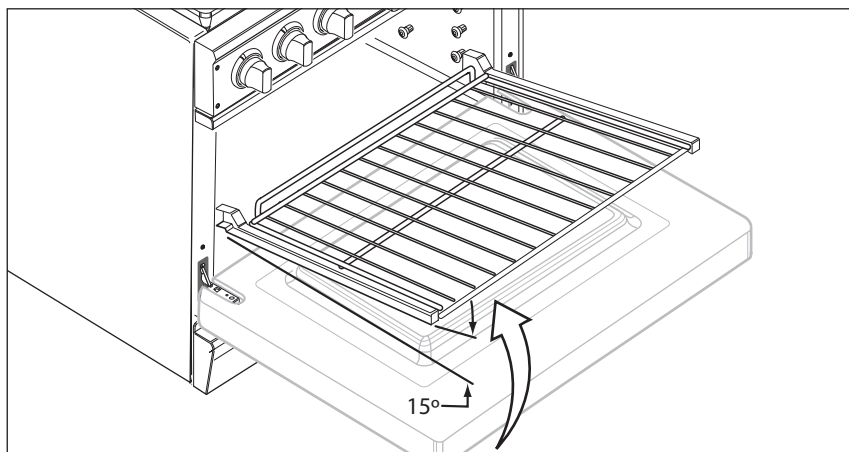

Fig. 03
2. As you slide the rack into the oven, tip the rack up slightly (see Fig. 03), so that the safety stops on the back of the rack slide over the rollers in the oven. The safety stops keep the rack from sliding out of the oven when pulled forward.